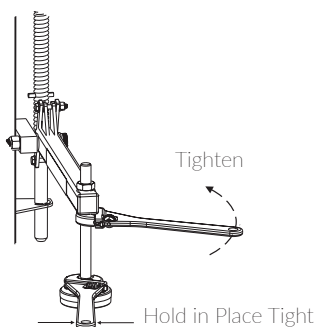

Figure 6-5
- Lower the platform about 5" to relieve pressure from the scooter's deck. While holding the stationary nut in place, run the bottom nut up to the hold-down arm and tighten. *See Figure 6-5.*